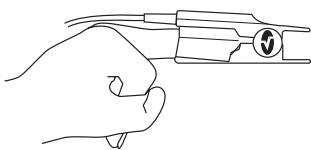

Fig. 2
- Refer to Fig. 2. The hinged tabs of the sensor should open to evenly distribute the grip of the sensor along the length of the finger. Check position of sensor to verify correct positioning. Complete coverage of the detector window is needed to ensure accurate data.